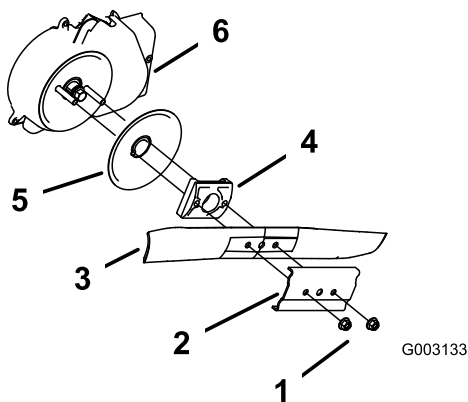

Figure 33
3. Remove the 2 blade nuts and the stiffener (Figure 33).
4. Remove the blade (Figure 33).
5. Remove the blade driver and disk (Figure 33).
6. Remove the blade brake clutch shield (Figure 33).
10. Install the blade and the stiffener that you previously removed (Figure 33).